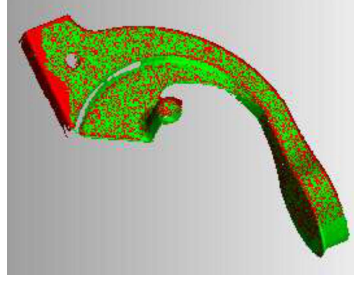

Figure 41
- View the fitting of the 2 scans as shown in **Figure 41**.